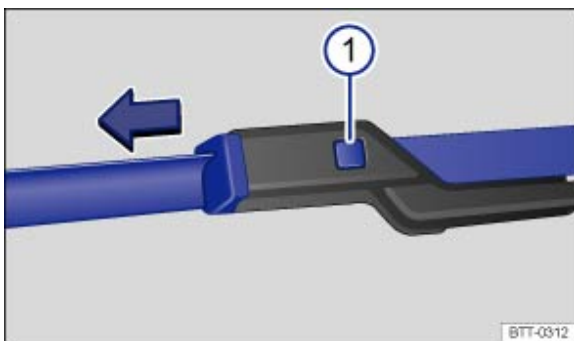

Fig. 201 Changing the windscreen wiper blades
- Press and hold release button → Fig. 201  and pull off the wiper blade in the direction of the arrow at the same time.